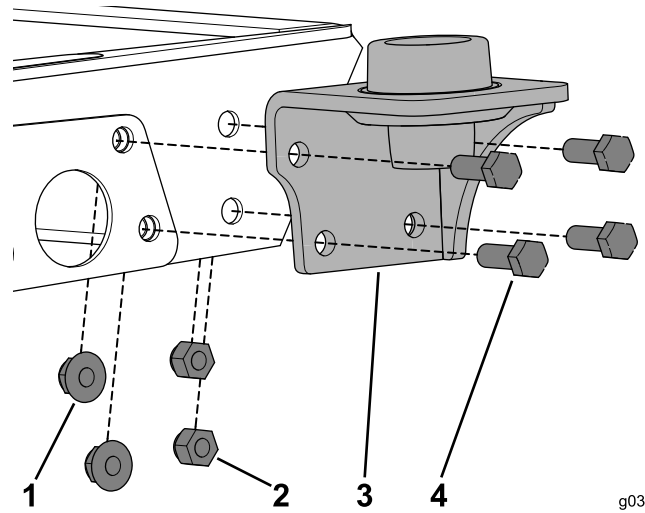

Figure 18
1. Remove the existing hardware and use the 4 bolts (3/8 x 1 inch) 2 flange nuts, and 2 locknuts to secure the mount to the machine (Figure 18).